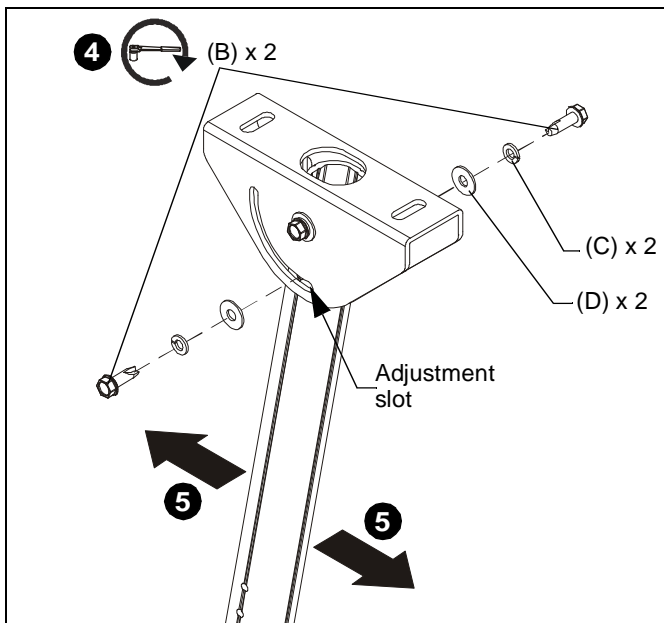

Figure 4
4. Finish loosely securing extension column to CPA395 using two 5/16-18 x 1" hex head self-tapping screws (B), two 5/16" split lock washers (C) and two 5/16" flat washers (D) through adjustment slot in CPA395 and into third hole on extension column. (See Figure 4)
5. Adjust extension column to desired angle. (See Figure 4)